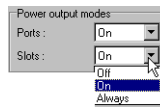

Figure 2-5. Select Power Output Modes – Slots
6. Select the **Power output modes Slots** drop-down list to set power output on internal slots (Figure 2-5).